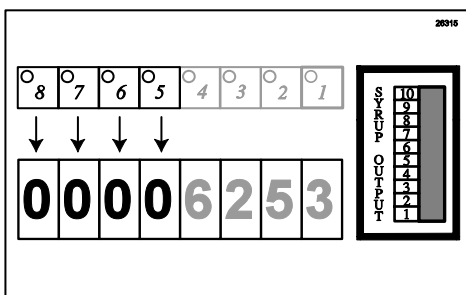

Figure 172
- Repeat with selections #5- #8 recording each number down from the right to left. Again, 10 on the bar graph represents 0. (See Figure 172.)